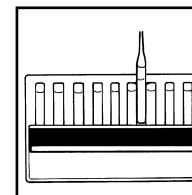

Figure 5
- b. **High Range Comparator (fig. 5):** Hold the comparator in a nearly horizontal position while standing directly beneath a source of light. Place the ampoule between the color standards moving it from left to right along the comparator until the best color match is found.